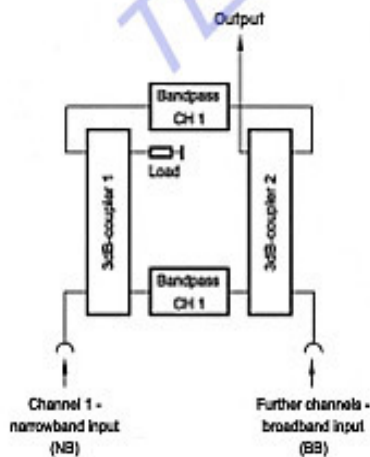

Fig. 9: Diagram of a directional filter
Directional filter combiners are a combination of filters and 3-dB couplers. One module consists of two band-pass filters, two 3-dB couplers and a load (see fig. 9). One input is narrowband (NB), corresponding to the band-pass curve of the band-pass filter. The other input is broadband (BB), corresponding to the operating range of the 3-dB coupler.